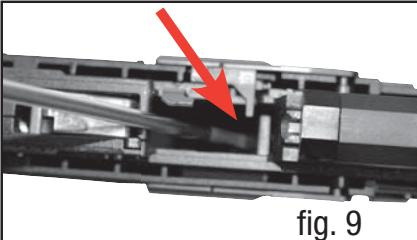

fig. 9
- You will find the spring mechanism of the magazine release in the magazine well (Fig. 9).